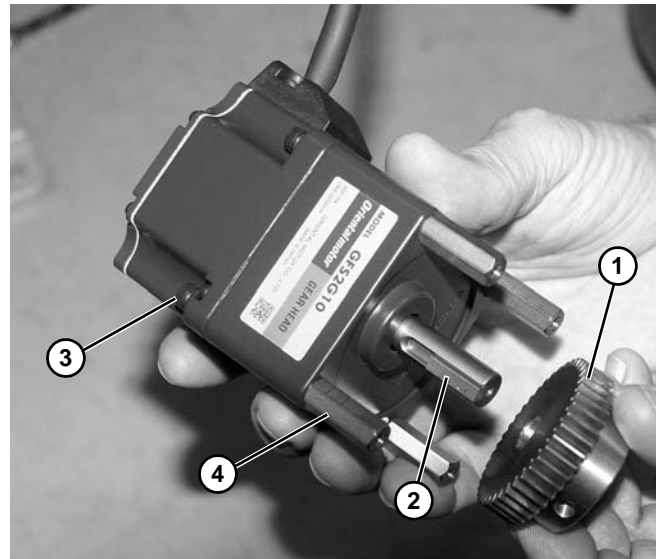

Figure 151
8. Remove gear (**Figure 151, item 1**) and key (**Figure 151, item 2**) from drive motor shaft.
9. Remove four screws (**Figure 151, item 3**) holding hex posts (**Figure 151, item 4**) onto motor.